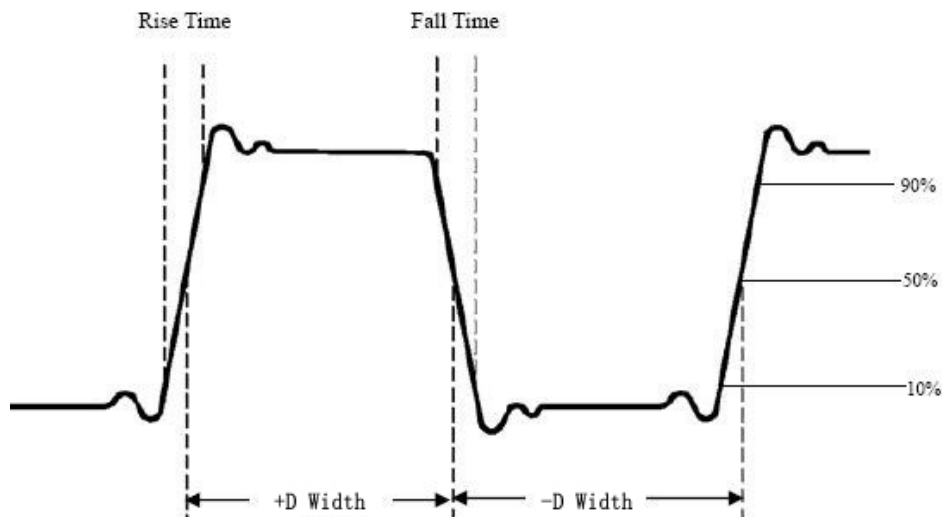

Figure 4-14
*Figure 4-14* shows a pulse with some of the time measurement points.